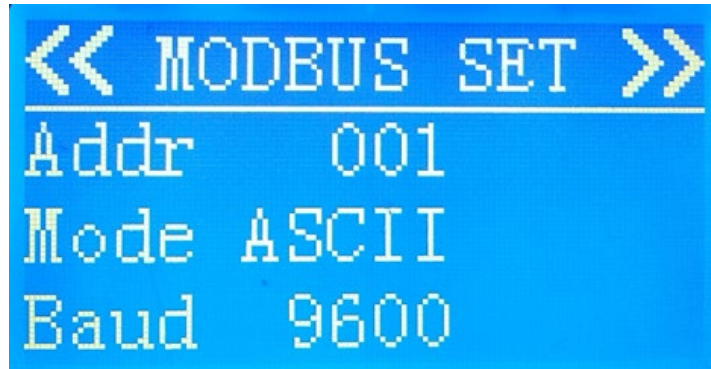

Fig 2-5 Modbus Setting
- 3) **In the “MODBUS SET” interface**, set Modbus communication mode to “ASCII” or “RTU”, set device address to “1”, set baud rate to “9600” or other, as shown on Fig 2-5:
- 3) In the “MODBUS SET” interface, set Modbus communication mode to “ASCII” or “RTU”, set device address to “1”, set baud rate to “9600” or other, as shown on Fig 2-5: